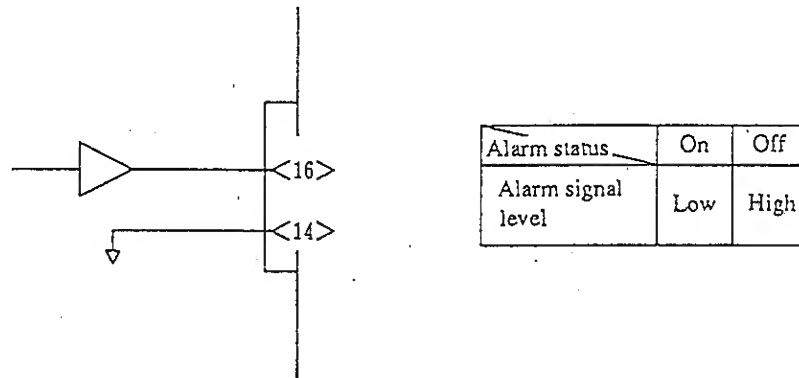

Figure 3.5-10
- The alarm output terminal is at the external control connector (J2) on the rear panel. The alarm signal delivered through this terminal is as shown in Figure 3.5-10.